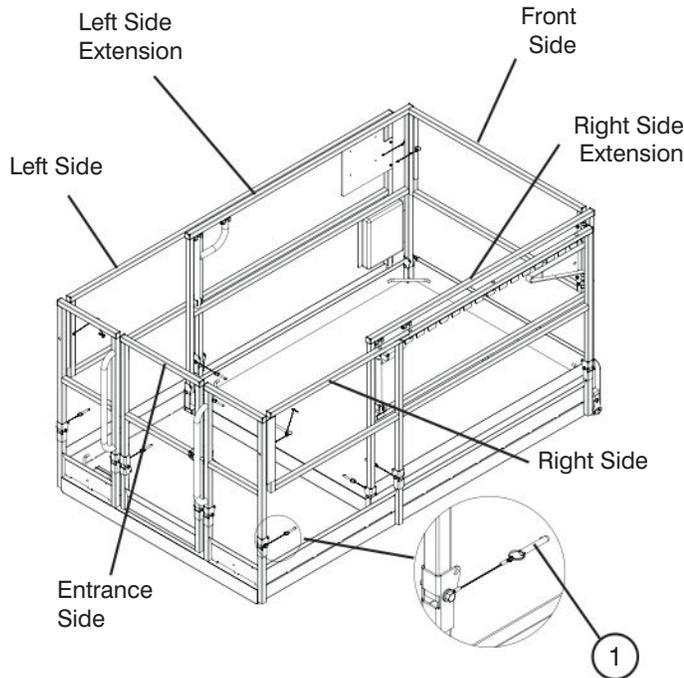

Figure 3-12a. Folding Guardrail System
9. Fold down guardrails in the following order: front, right extension, left extension, right-side, left-side and entrance (refer to Figure 3-12a).